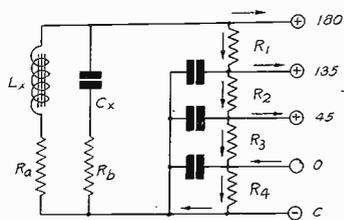
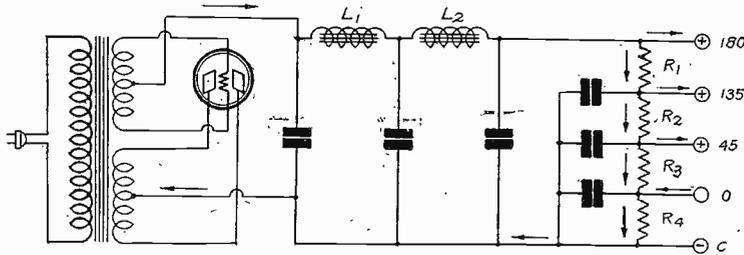

FIG. 6
FIG. 7
In Fig. 6 is shown the circuit of a common B battery eliminator in which the effective inductance of the choke coils is given by  $L_x$ , the resistance of the choke coils and of the rectifier by  $R_a$ , the effective capacity of the bypass condensers by  $C_x$  and the resistance in series with the by-pass condensers by  $R_b$ . The condenser resistance is usually so small that it can be neglected, but the resistance  $R_a$  in series with the line is often quite high. It is the chief trouble maker.
The arrows in Fig. 6 show the direction of the steady plate current in the various sections. The direction at any instant of the signal current in the various sections is indeterminate.
Fig. 7 shows the complete circuit of the B battery eliminator of which the circuit in Fig. 6 is the equivalent.
**THE COMPLETE CIRCUIT DIAGRAM OF THE B BATTERY ELIMINATOR SHOWN IN FIG. 6.**